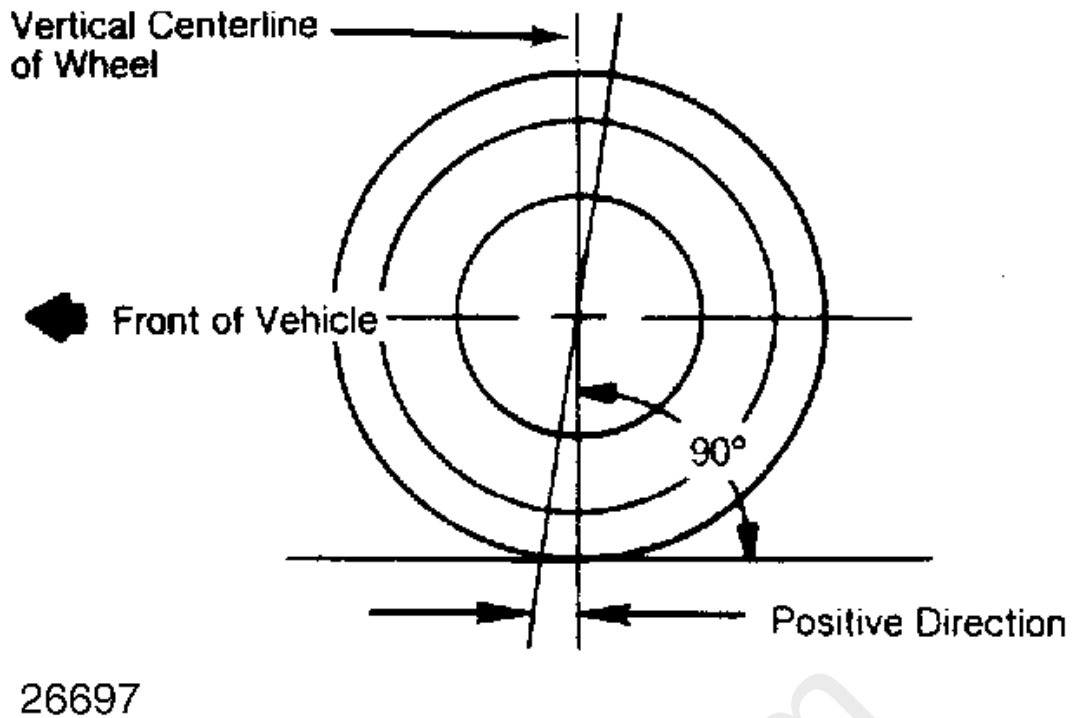

Fig. 4: Determining Caster Angle
1. Caster is tilting of front steering axis either forward or backward from vertical, as viewed from side of vehicle. See Fig.4.